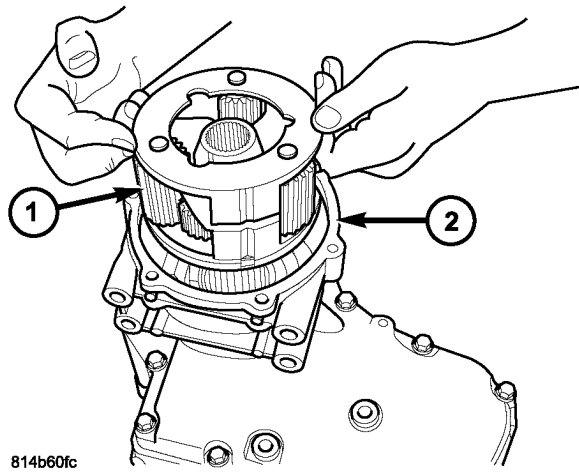

Fig. 2 REMOVE PLANETARY GEAR SYSTEM
6. Remove the planetary gear system from the transfer case rear housing (Fig. 2).
15. Install the planetary gear system into the transfer case rear housing (Fig. 2).